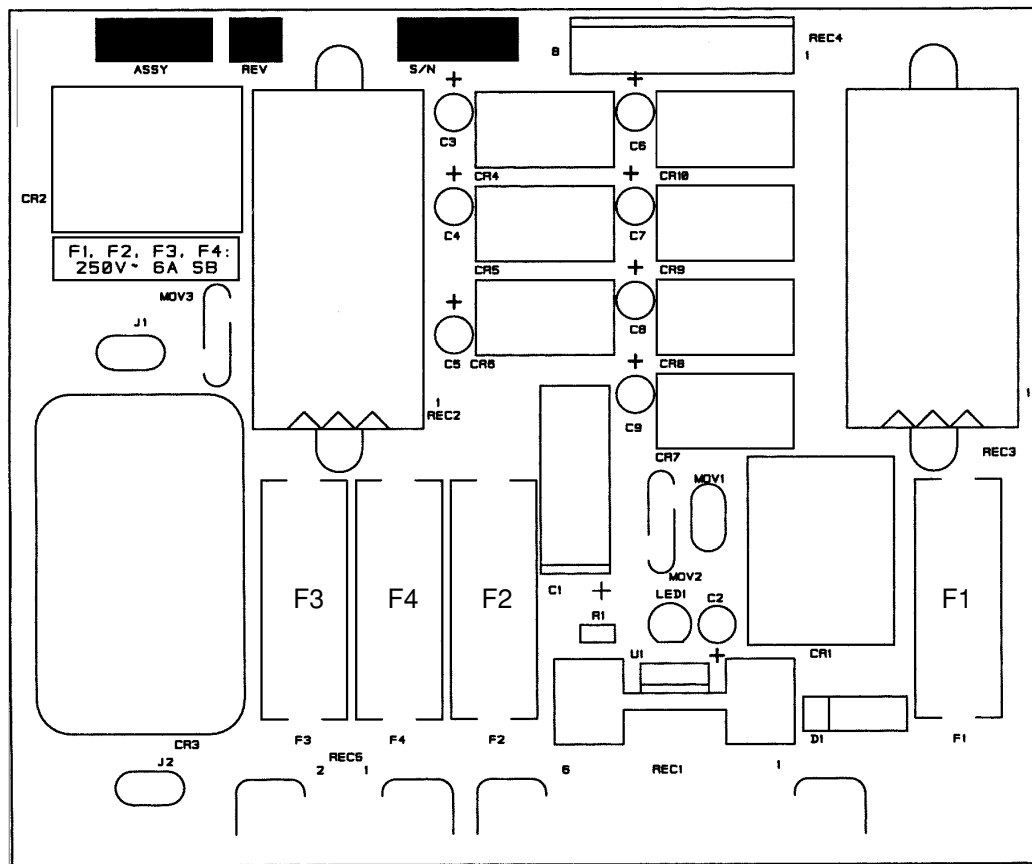

Figure 8-2 Power Distribution Board PCB1
6. Measure voltage at Power Distribution Board PCB1. Refer to Figure 8-2 for detail of PCB1. Look on the board for fuses F1- F4. Measurements between each fuse and chassis ground should be as follows:
1. The green POWER ON pushbutton switch PB1 is pressed, but the fans are not operating and the green POWER ON indicator does not illuminate.	<p>1.1. The green POWER ON (1) PB1 pushbutton is defective. Check that switch is operating correctly, and that good contact is being made. The POWER ON switch is normally open.</p> <p>1.2. The red POWER OFF (0) PB2 pushbutton is defective. Check that switch is operating correctly, and that good contact is being made. The POWER OFF switch is normally closed.</p> <p>1.3. Associated wiring not making good contact. Check wiring and repair or replace, if necessary.</p>
2. The green POWER ON pushbutton switch PB1 is pressed, the POWER ON indicator illuminates, but the fans are not running.	<p>2.1. CR2 on the power distribution board is defective. Check that CR2 switches when POWER ON pushbutton is pressed. See Figure 8-2 for location of CR2. If CR2 is defective, replace PCB1.</p> <p>2.2. Connector from power distribution board is not seated securely. Check pins, connectors and associated wiring for good continuity. Repair or replace, if necessary.</p>
<p>3. The green POWER ON pushbutton switch PB1 is pressed, the fans are operating, but the green POWER ON indicator does not illuminate.</p>	<p>3.1. Pushbutton PB1 was not held down for a long enough period of time. Press and hold PB1 for a minimum of 5 seconds.</p> <p>3.2. Relay CR1 on the power distribution board is defective. Check that CR1 switches when POWER ON pushbutton is pressed. See Figure 8-2 for location of CR1. If CR1 is defective, replace PCB1.</p> <p>3.3. One or more of the STATUS LEDs remains illuminated, indicating a fault condition. To troubleshoot STATUS fault conditions, see Status LED Troubleshooting later in this section.</p>